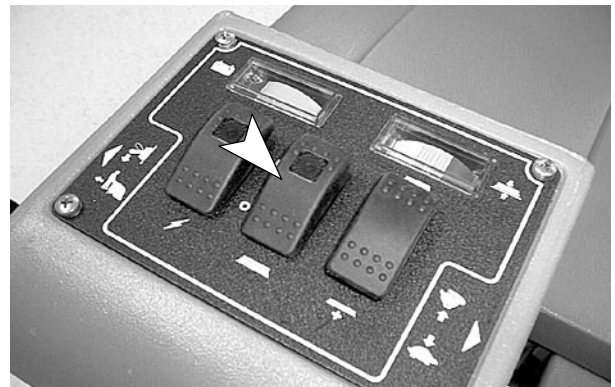

FIG. 15
7. To transport machine, turn off pad switch and twist control grips. Pad will automatically raise to the transport position (Figure 15).